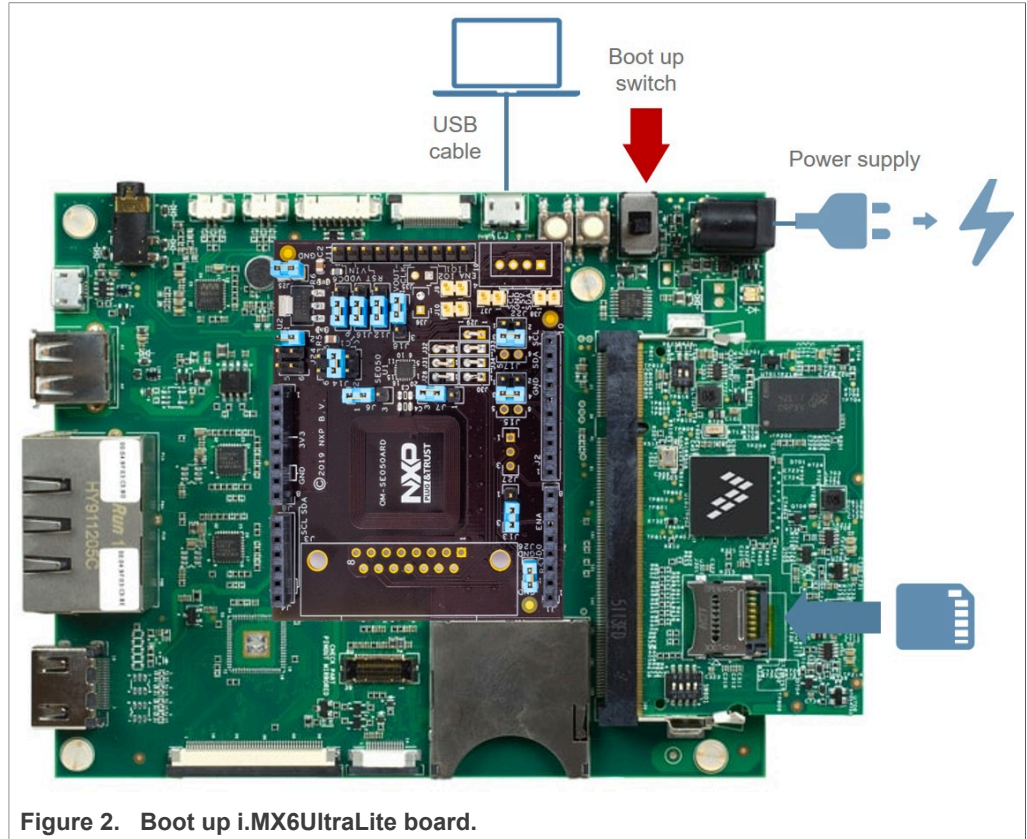

Figure 2. Boot up i.MX6UltraLite board.
1. Insert the SD card image into the i.MX6UltraLite board, connect it to power supply, to the laptop and boot it up as shown in Figure 2